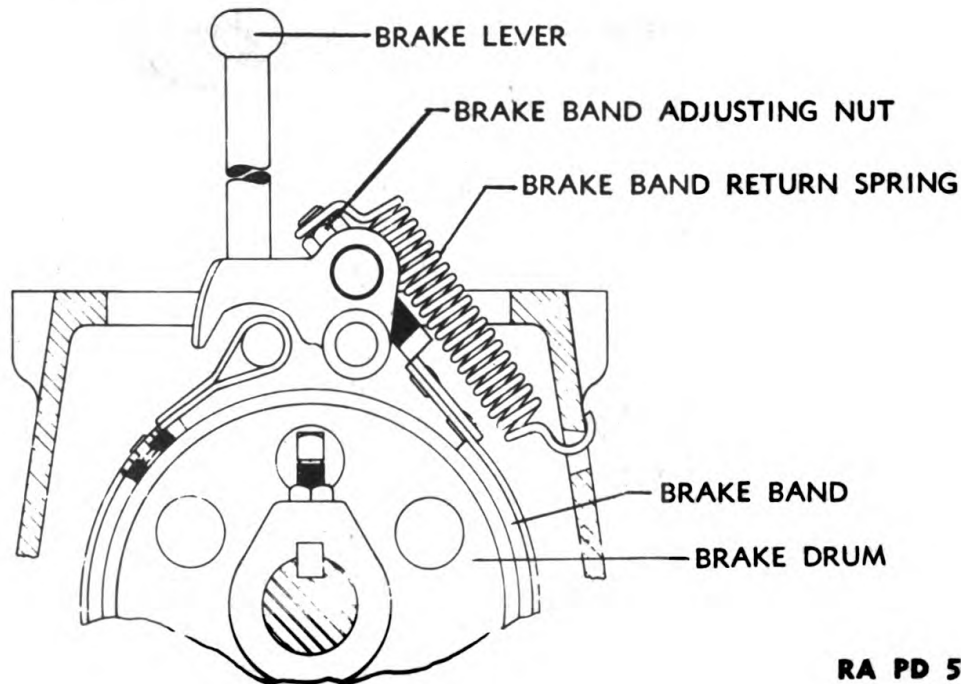

FIGURE 24.—Brake adjustment.
60. Brake adjustment.—*a.* Adjustment (fig. 24) is the only maintenance operation authorized to be performed on the brakes.